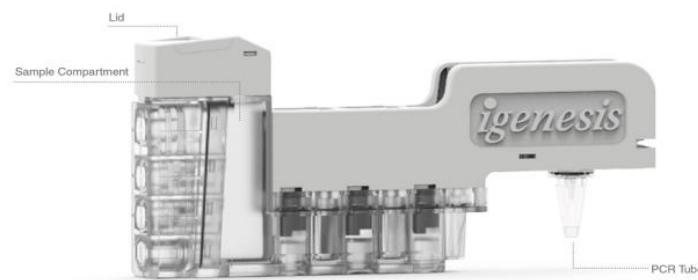

Figure 1. nCoV iCassette (Lateral View)
1.3 Open the lid of the iCassette, and pipette 200 μl of sample or controls to the nCoV iCassette sample compartment as shown in Figure 1. slowly, close the lid tightly. (Note: After the sample is added to the iCassette, the test needs to start running within 30 minutes)